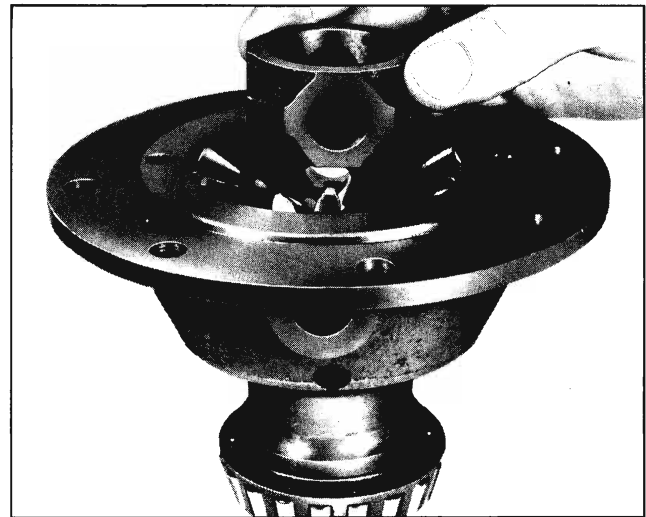

Fig. 4-35 Removing Differential Ring from Case
10. Remove differential pinion shaft ring from case (Fig. 4-35).